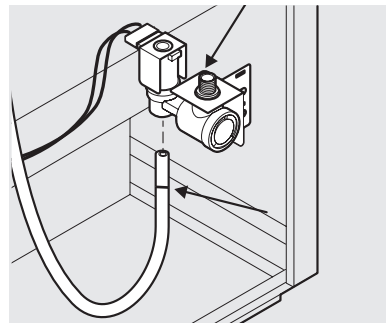

Figure 19
18. Place the green water tube to the ice maker into the bottom outlet of the water valve. Push the tube into the valve up to the black line marked on the tube. Lightly pull on the tube to make sure you installed it correctly. See Figure 19.